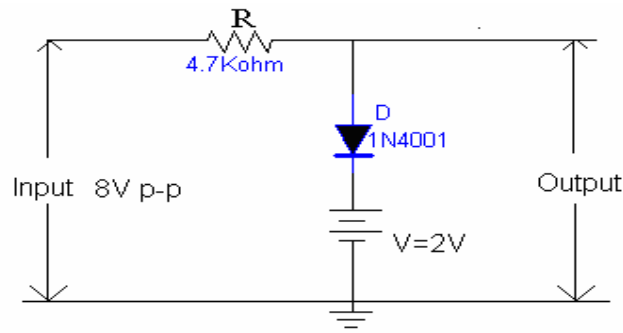

Fig.1
1. Connect the circuit as shown in Fig.1 and apply a sinusoidal signal of amplitude of 2V p-p as input.
1. Connect the circuit as per circuit diagram shown in Fig.1